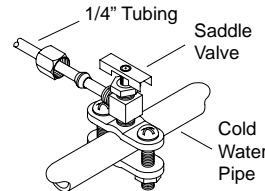
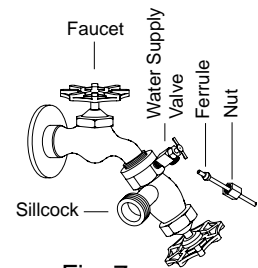

Fig. 6
Fig. 7
- **Connect water supply line.** Find the closest supply of water. Run 1/4" tubing from the unit to the water supply. You may use a saddle valve (Fig. 6) to connect 1/4" tubing to the cold water supply or a Sillcock and water valve connected to an outside faucet (Fig. 7). Place the nut and ferrule on the tubing and tighten the nut until water tight. Insert the tubing into the float hole of the corner post. Remove the perforated grill if installed to have access to the float. Attach the tubing to the float using a nut and ferrule. Tighten until water tight. **IMPORTANT:** Do not connect the water supply to any soft water applications. Soft water will cause corrosion and decrease the life of the unit.